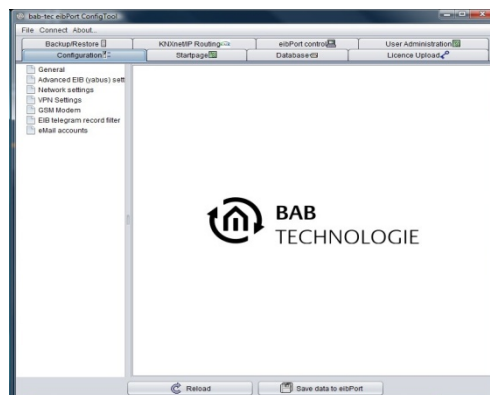

Figure 5: ConfigTool
- The ConfigTool opens. The interface of the "Configuration" tab is visible on the screen (figure 5).